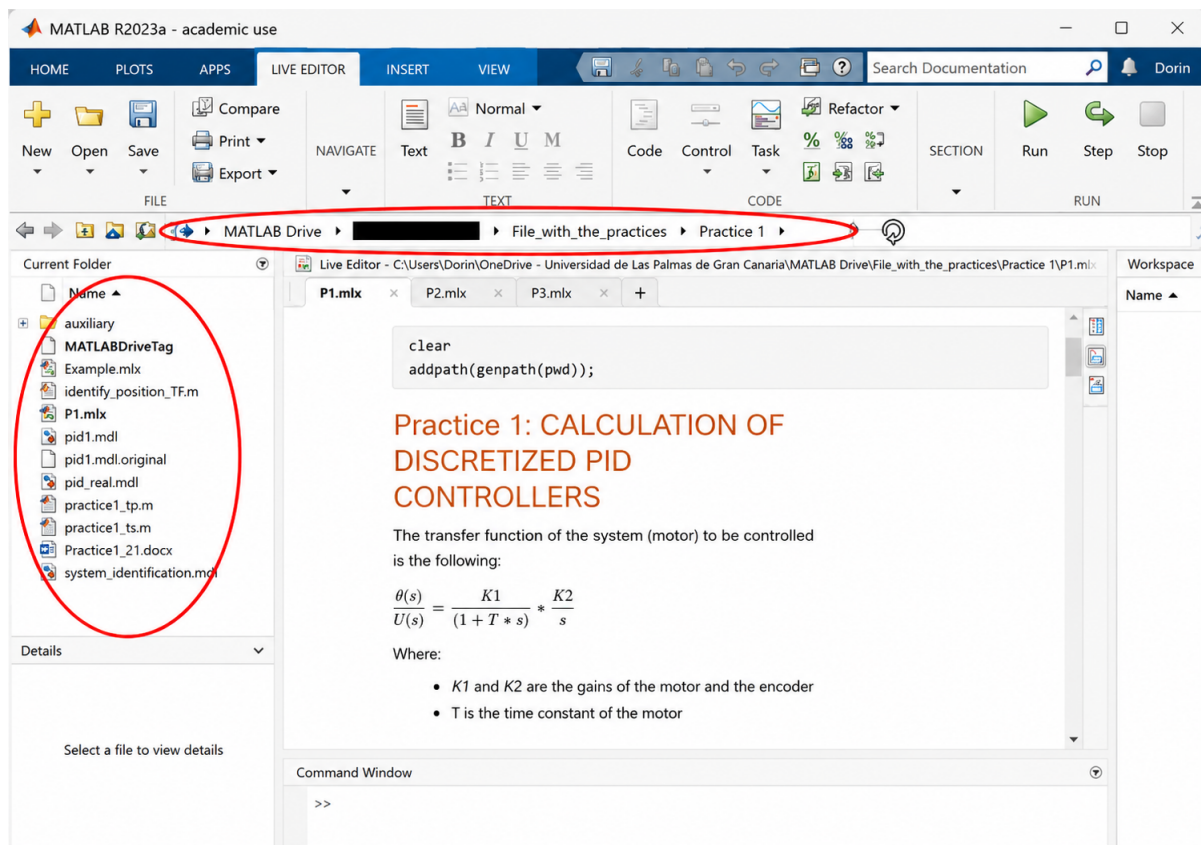

Figure 1: Matlab interface
*To check the results obtained in this section, complete the file P3.mlx and run it using the "Run" button. To do this, first set the current Matlab directory to the folder of the practice session (see Figure 1) and then open the file P3.mlx from the current directory.*